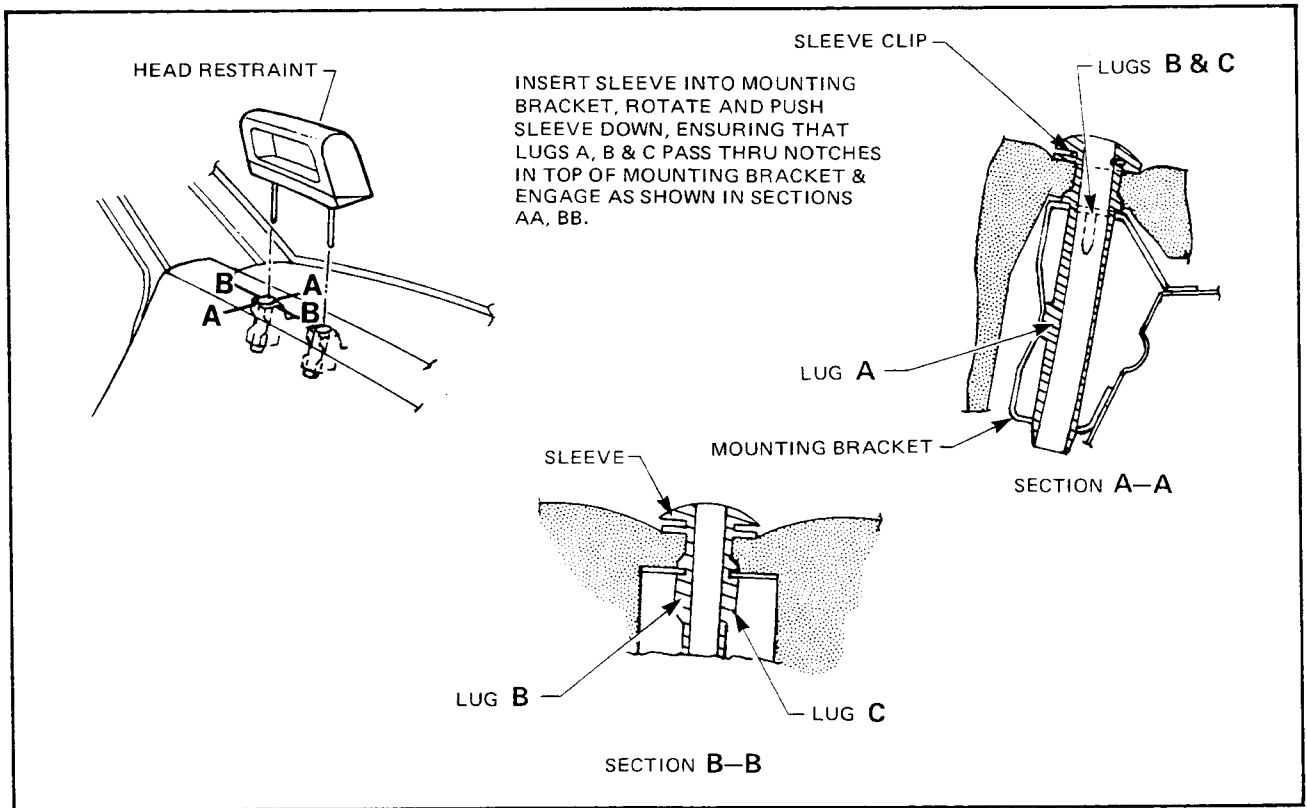

Figure 1A-45
2. Twist head restraint sleeves in an anti-clockwise direction then lift sleeves out of brackets welded to the rear parcel shelf (refer Section A-A, Fig. 1A-45).
3. Depress front edge of seat cushion assembly rearwards to disengage assembly retainer from brackets attached to the floor (refer Section A-A, Fig. 1A-46) remove, then place assembly on a clean protected surface.